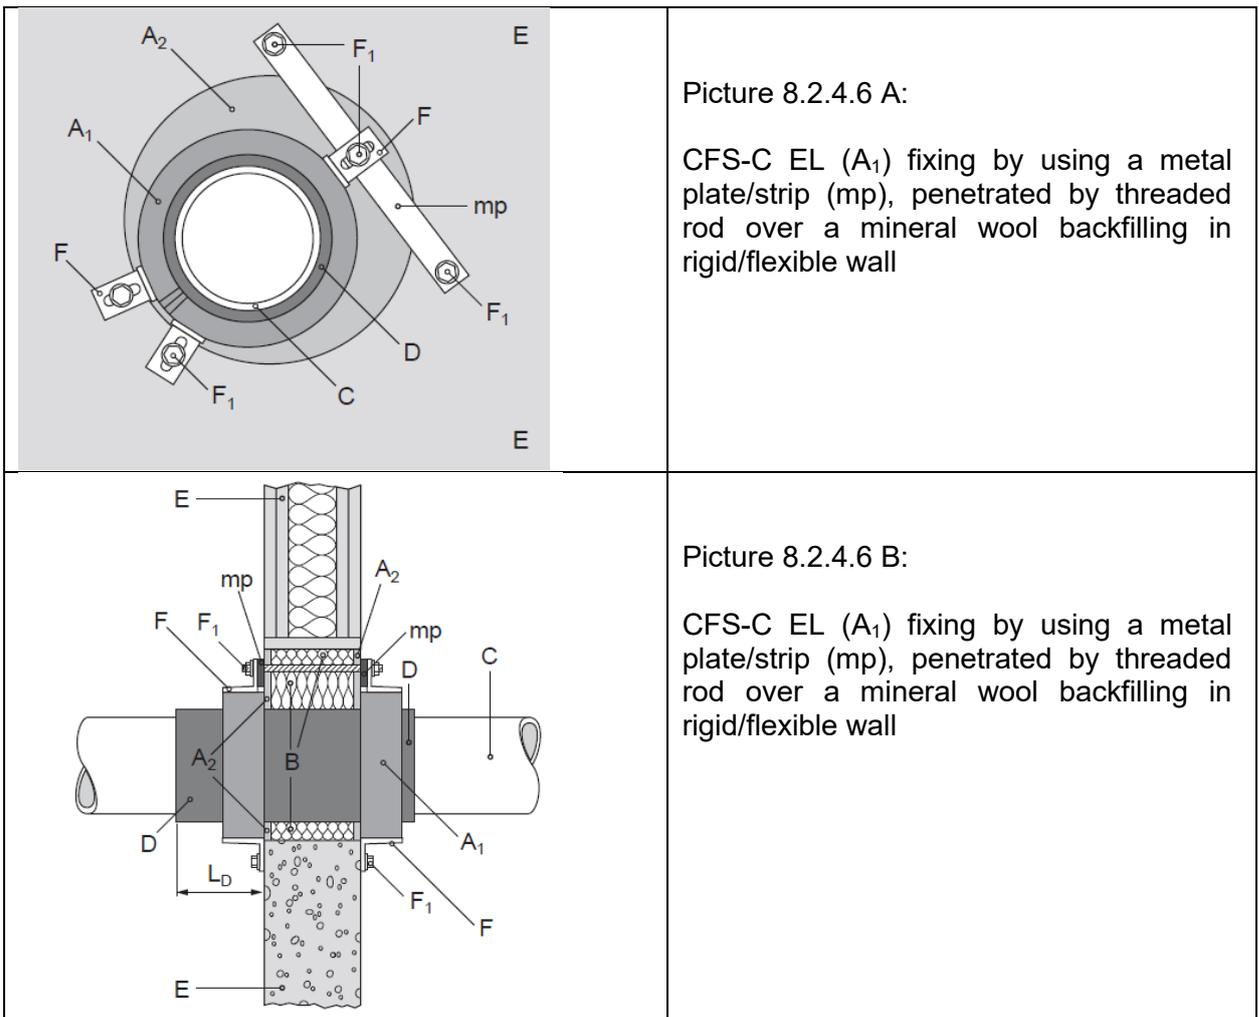

Figure 9: Collar fixing on mineral wool back filler
- Metal plate/strip is supported on supporting construction itself (see Figure 9)